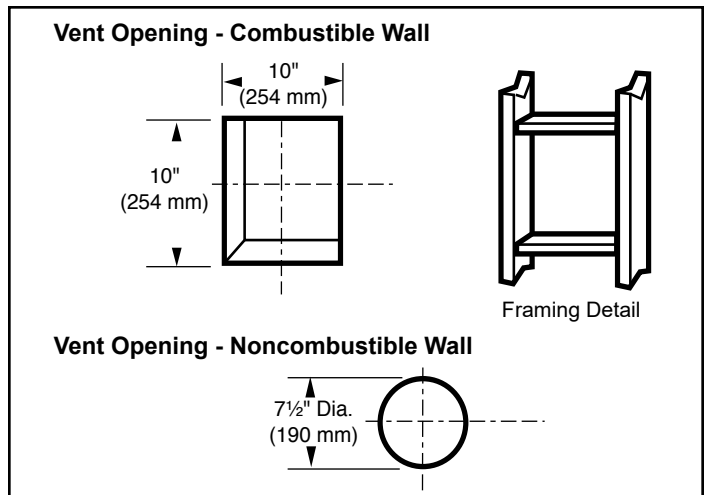

Figure 3.10 - Locate vent opening. **NOTE: Zero clearance sleeve is required for combustible wall installations.**
1. Locate vent opening on the wall. It may be necessary to first position the stove and measure to obtain hole location. Depending on whether the wall is combustible or noncombustible, cut opening to size, Figure 3.10 (For combustible walls first frame in opening.) Combustible Walls: Cut a 10" H x 10" W (254 x 254 mm) hole through the exterior wall and frame as shown, Figure 3.10. Noncombustible Walls: Hole opening must be 7-1/2" (191 mm) in diameter.